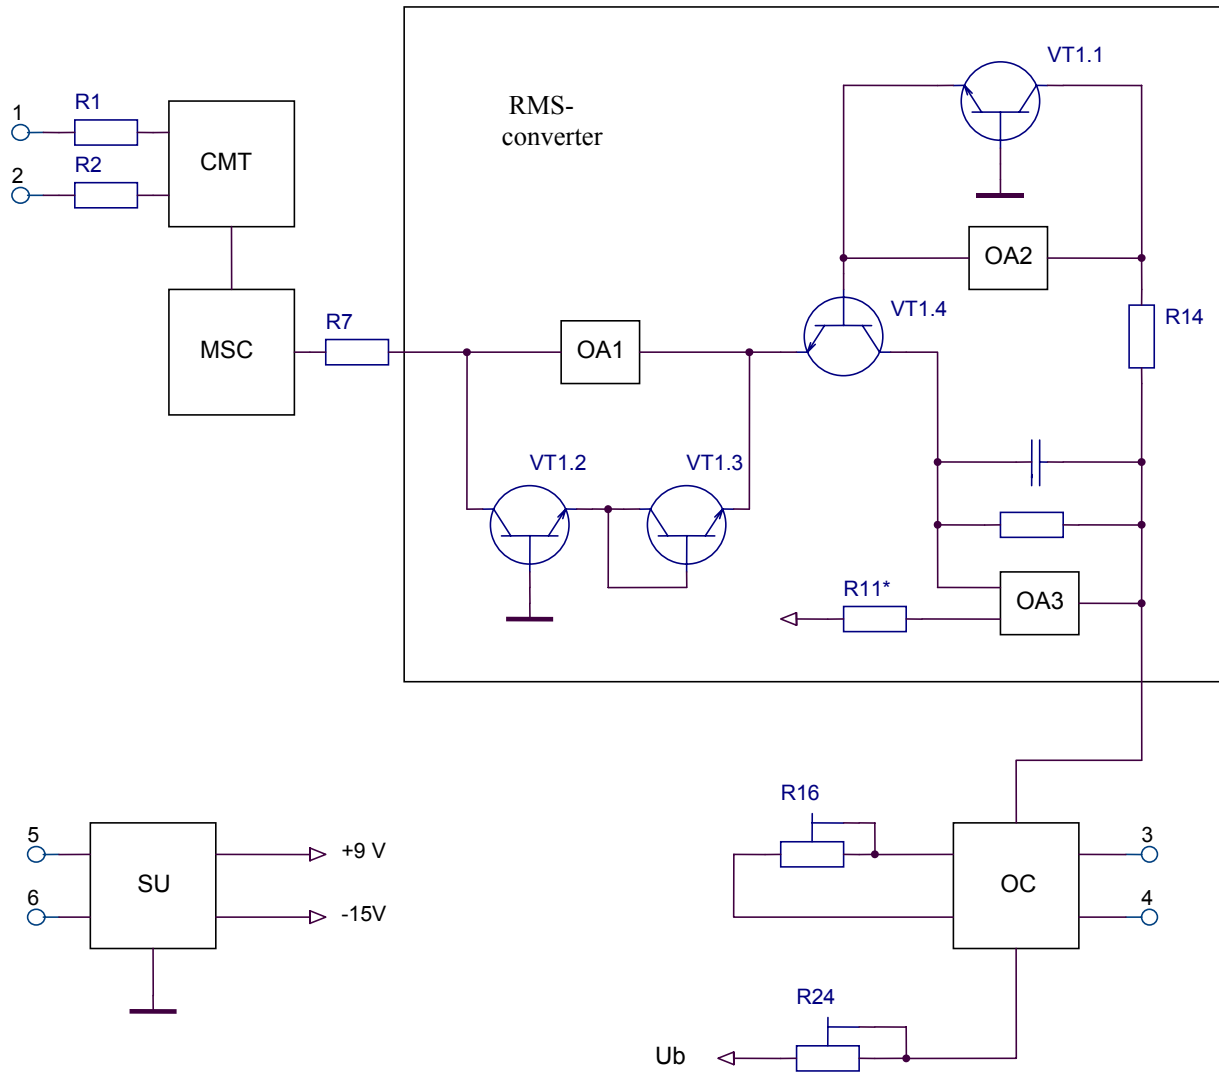

Figure 1. Block Diagram
1.4.2 Converter Block Diagram is shown in Figure 1.